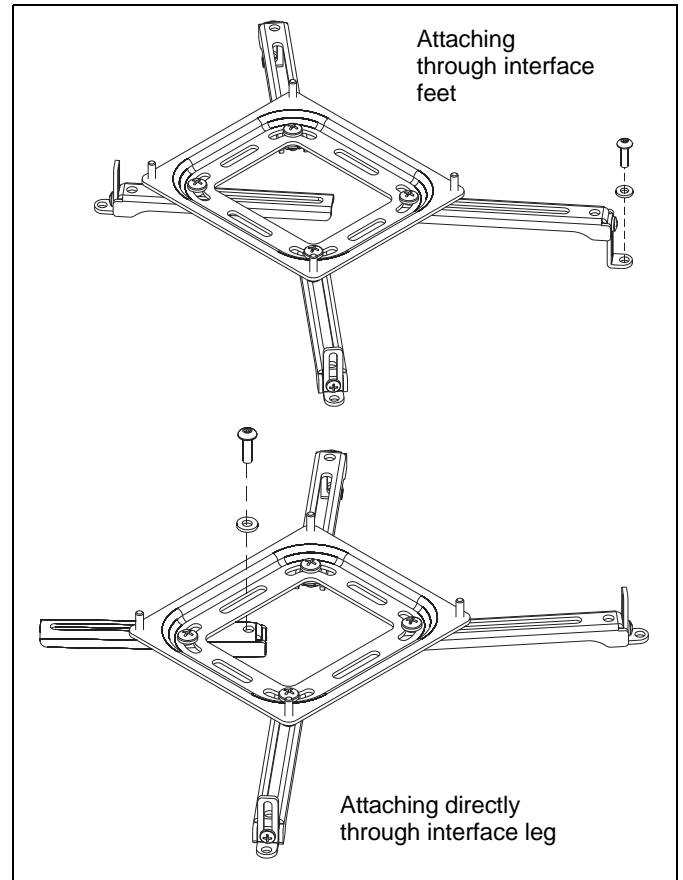

Figure 5
6. Attach the universal interface to the projector either through the bracket feet, or directly through the legs. (See Figure 5)